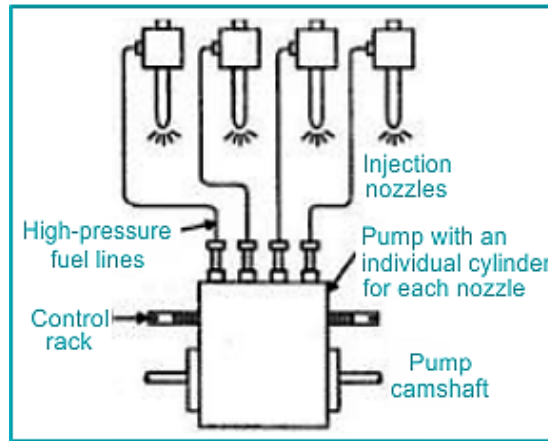

Figure 1.3: *Individual pump and nozzle system*
1. **Individual pump and nozzle system:** In this solid injection system, each cylinder is equipped with an individual pump and injector. The pump sends high-pressure fuel directly to the injector. It is common in older diesel engines and trucks. See Figure 1.3.